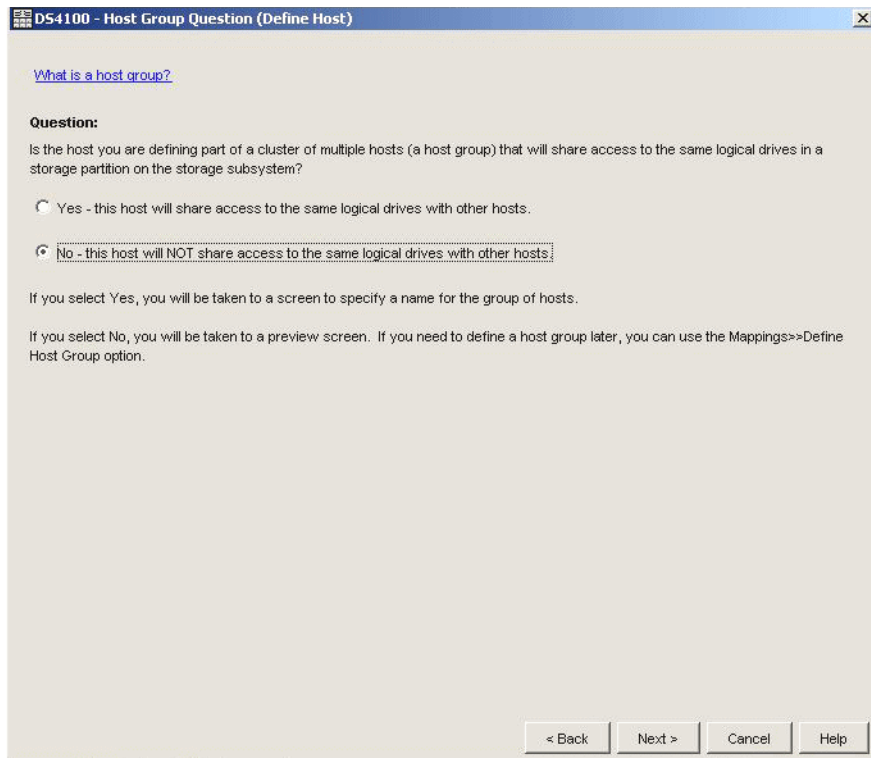

Figure 9-51 Host Group Question (Define Host) window
20. In this step, specify the host type (or the operating system) of your host. In our example, we specified Windows 2000/Server 2003 Non-Clustered. Click **Next** to continue. You will see a window similar to Figure 9-51.